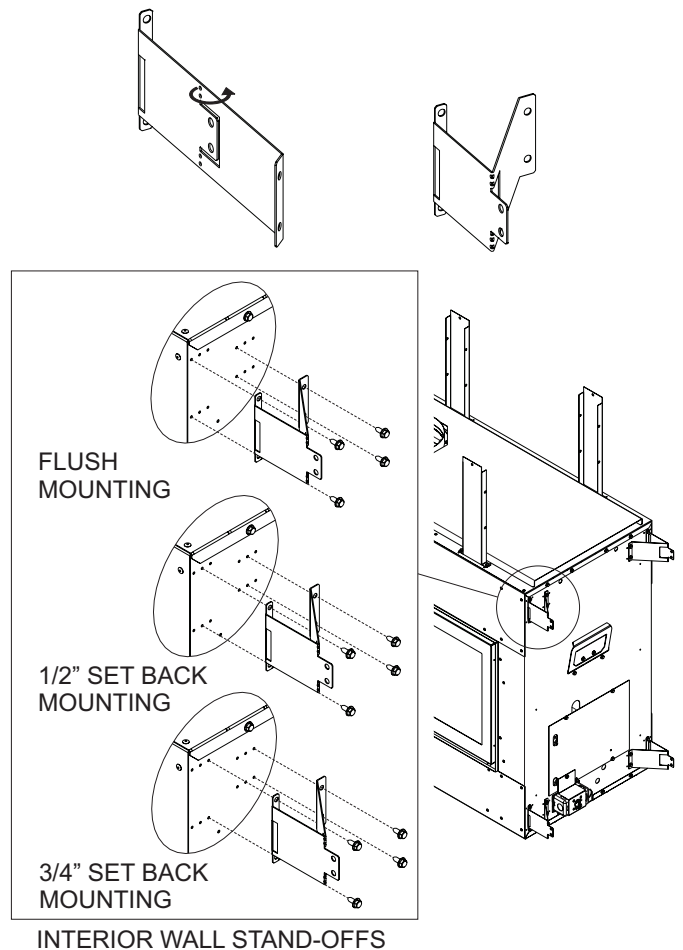

Figure 22
3. Secure the four framing brackets and hand bend them into a V shape as shown in **Figure 22**. Secure with #10 x 1/2 inch hex-head screws.
4. Locate the nailing flanges on the sides of the fireplace (two each side). **See Figure 22.**